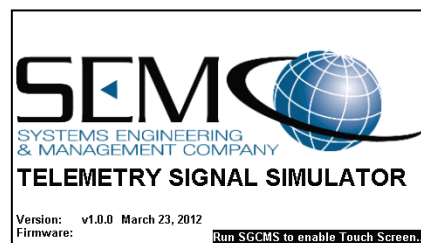

Figure 2-15
Step 13 – Power down the simulator system. This action allows the Touch Screen to reset itself with the new programming. Restart the system. As soon as the computer starts booting, the Touch Screen display will appear as shown in Figure 2-15.